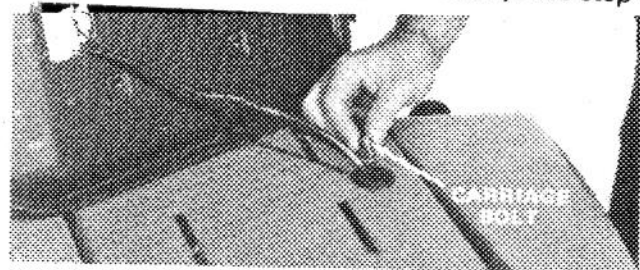
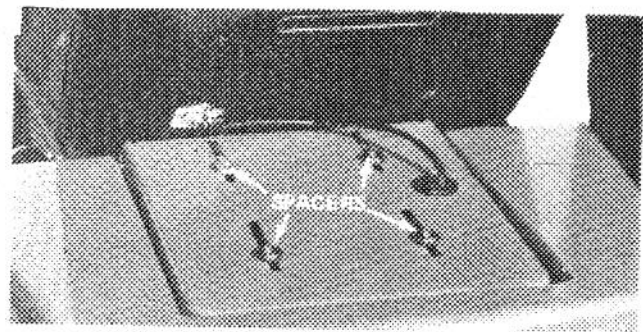

Figure 4
Figure 5
3. Insert carriage bolt into square hole next to grommet (Fig. 4), install spacers between seat and mount plate and set seat into position (Fig. 5).